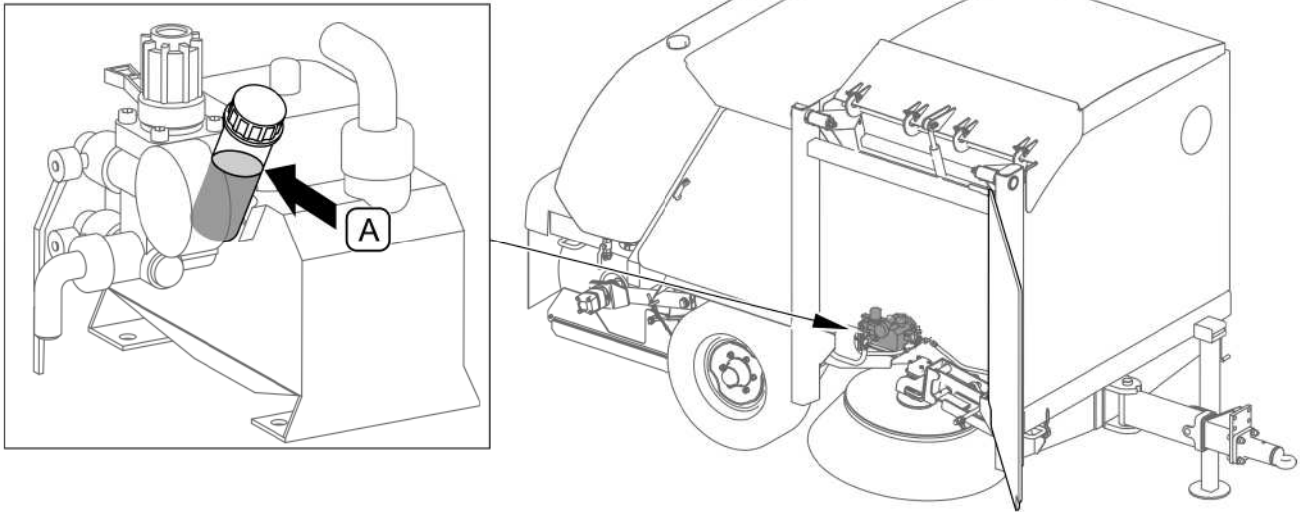

FIG. 5.21 Oil tank of water pump
Level of oil in the water pump lubrication system should be checked periodically. When the machine is switched off, oil level (A) in the water pump lubrication system should be between „min” and „max” marks visible on the inlet tube (FIG. 5.21).